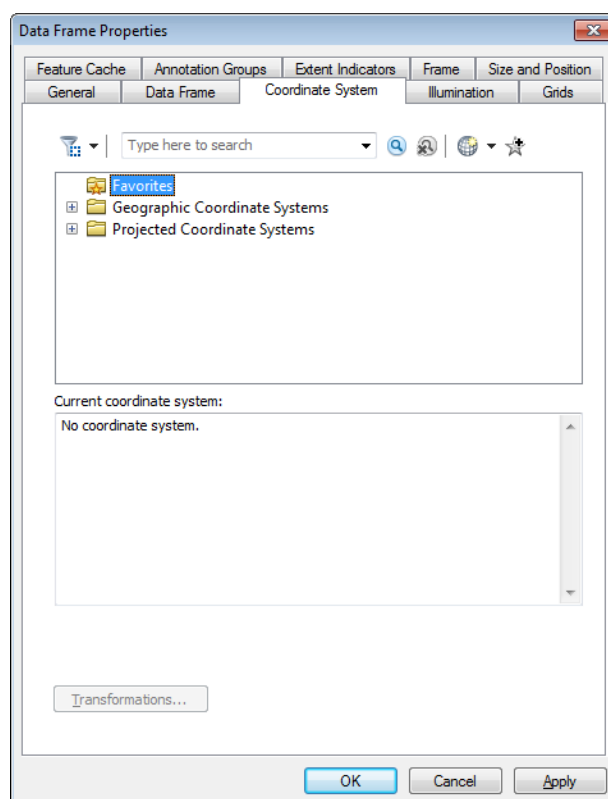

Figure A.4 - Coordinate System tab of the Data Frame Properties window in ArcMap.
3. ArcMap can be set up to use a predefined projected coordinate system, e.g. the UK Ordnance Survey National Grid, in which metres are the measurement unit. This is done by clicking **View, Data Frame Properties...** and selecting the **Coordinate System** tab (**Figure A.4**). The explorer window can be used to navigate to and select the required predefined projected coordinate system. The units of the selected coordinate system are included as part of the information in the **Current coordinate system** box. After returning to the main plot window, the correct units will be displayed.